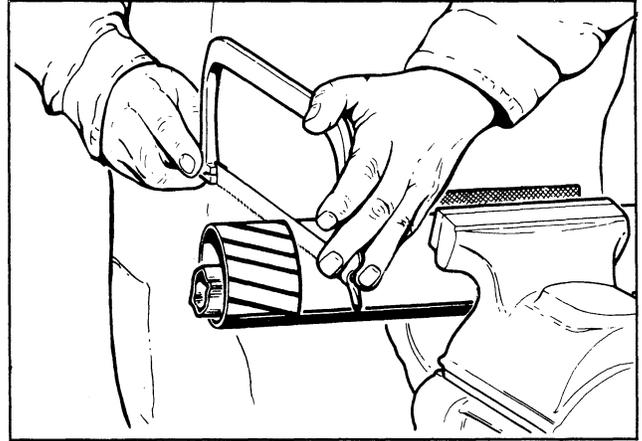

Figure 17
- Clamp the driveline in a well padded vice to prevent damage to the shield. Cut off the shield where it was marked in step 6 as shown in Figure 17.